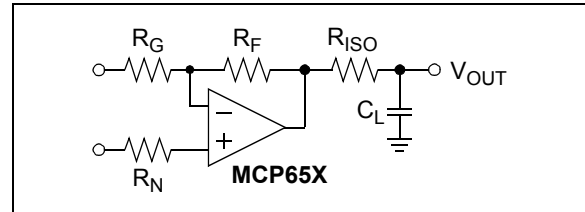

FIGURE 4-9: Output Resistor, R_{ISO} Stabilizes Large Capacitive Loads.
- Limit I_{OUT} using R_{ISO} (see Figure 4-9)
When driving large capacitive loads with these op amps (e.g., > 20 pF when $G = +1$), a small series resistor at the output (R_{ISO} in Figure 4-9) improves the feedback loop's phase margin (stability) by making the output load resistive at higher frequencies. The bandwidth will be generally lower than the bandwidth with no capacitive load.